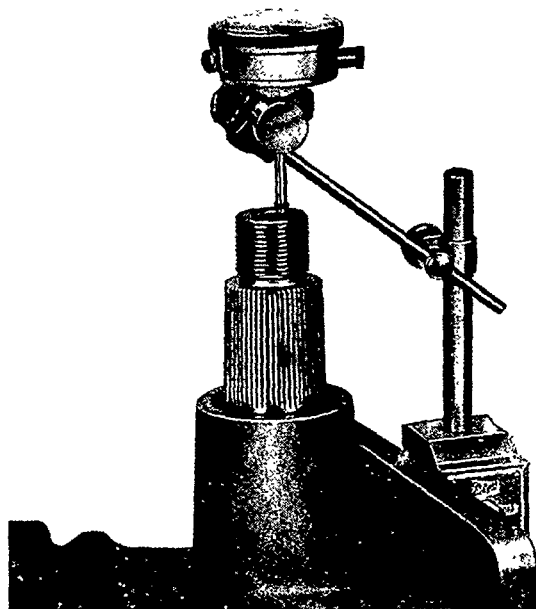

Figure 14
4. Measure the rocker shaft end-float using a dial gauge as shown in Figure 14. From this value deduct 0.008 in. (0.2 mm.) and select a shim washer nearest to this value.